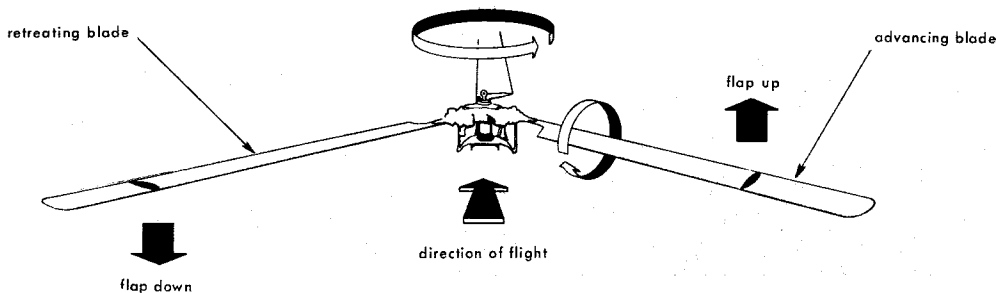

Fig 3 Changing blade angle
5. To overcome the roll tendency the helicopter is designed so that the 'advancing' blade has a reduced angle of attack whilst the angle of attack of the retreating blade is increased. This change in blade angle is made automatically (Fig 3).